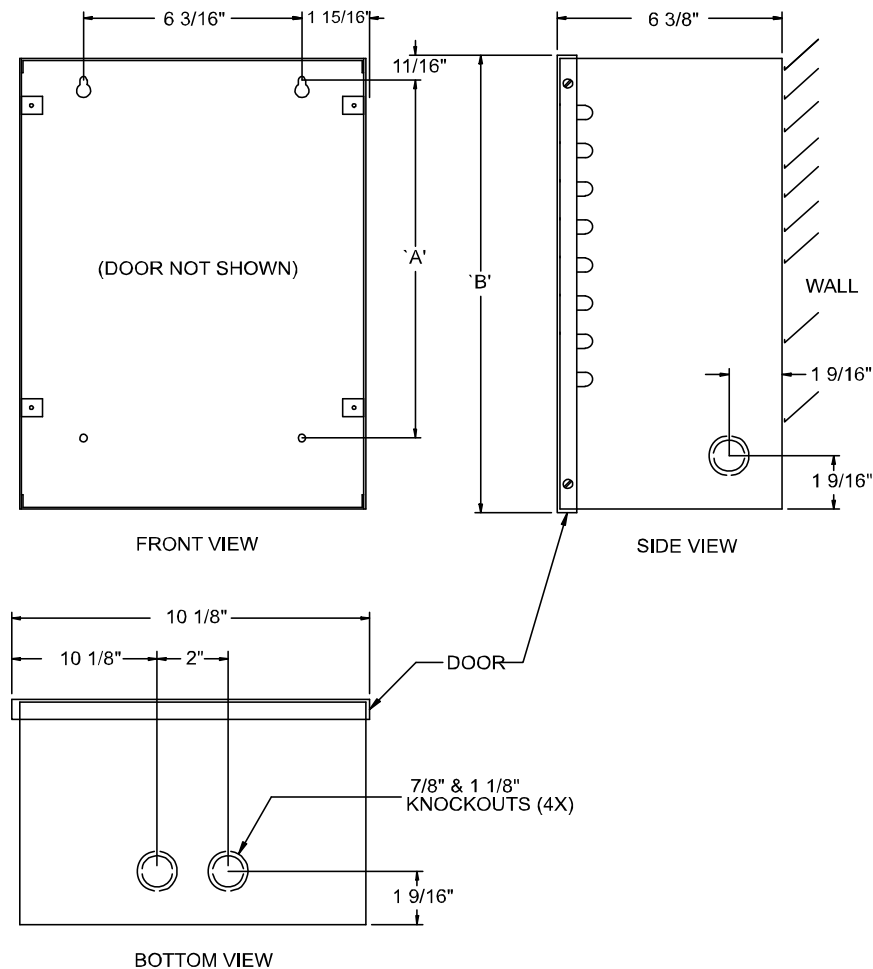

Figure 31. NSL Relay Cabinet
The TX3-8EC NSL Expander includes the 13 15/16 inch enclosure. The TX3-NSL-8M Relay Cabinet includes the 27 inch enclosure. The TX3-16EC NSL Expander includes the 27 inch enclosure. See figure 31 and Table 4.
1. Using the back cover as a template mark the top two mounting hole locations 6 3/16 inches apart as shown in figure 31.